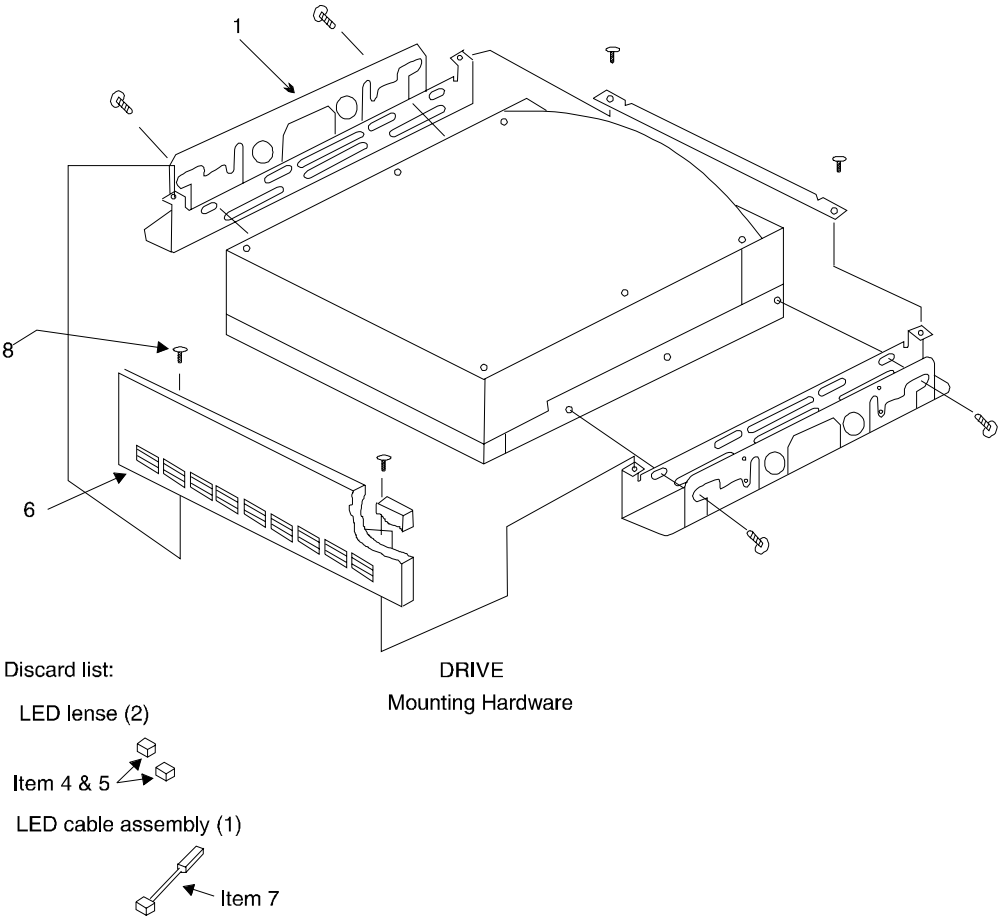

Figure 6-2. Hard Disk Drive Mounting Kit
These screws are shown as Item 8 in Figure 6-2.
8. Place the mounting rails parallel to each other with the smaller of the two flanges of the rails on the inside (Figure 6-2).